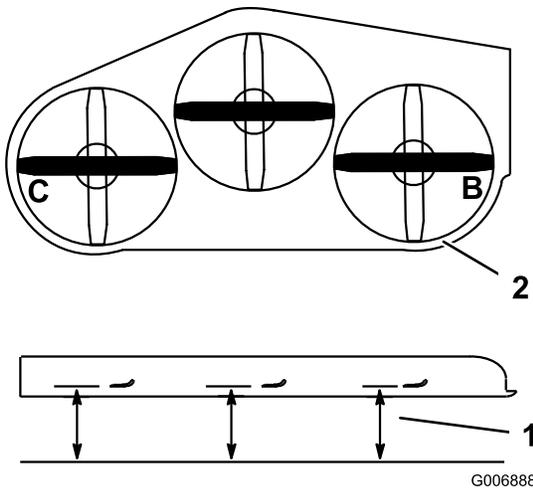

Figure 83
1. Position the **right** blade side-to-side (Figure 83).
3. Measure the right blade at the **B** location, from a level surface to the cutting edge of the blade tip (Figure 83).
5. Position the left blade side-to-side (Figure 83).
6. Measure the left blade at the **C** location (Figure 83), from a level surface to the cutting edge of the blade tip.